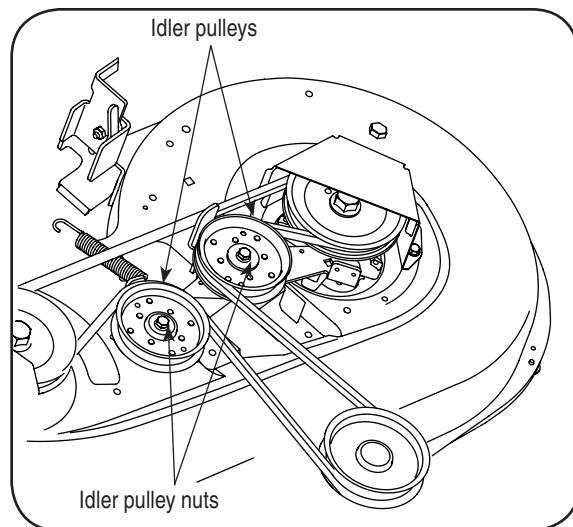

Figure 6-10
4. On the 42-inch deck only, loosen but do not remove, the idler pulley nuts. This will enable the belt to be easily removed from the idler pulleys. See Fig. 6-10.